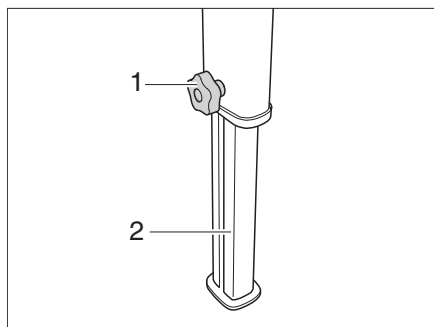

Fig. 37 Suspension table with telescopic leg (optional)
- Turn open the star grip (Fig. 37,1).
- Adjust the telescopic leg (Fig. 37,2) so that the table-top is level.
- Tighten the star grip (Fig. 37,1).